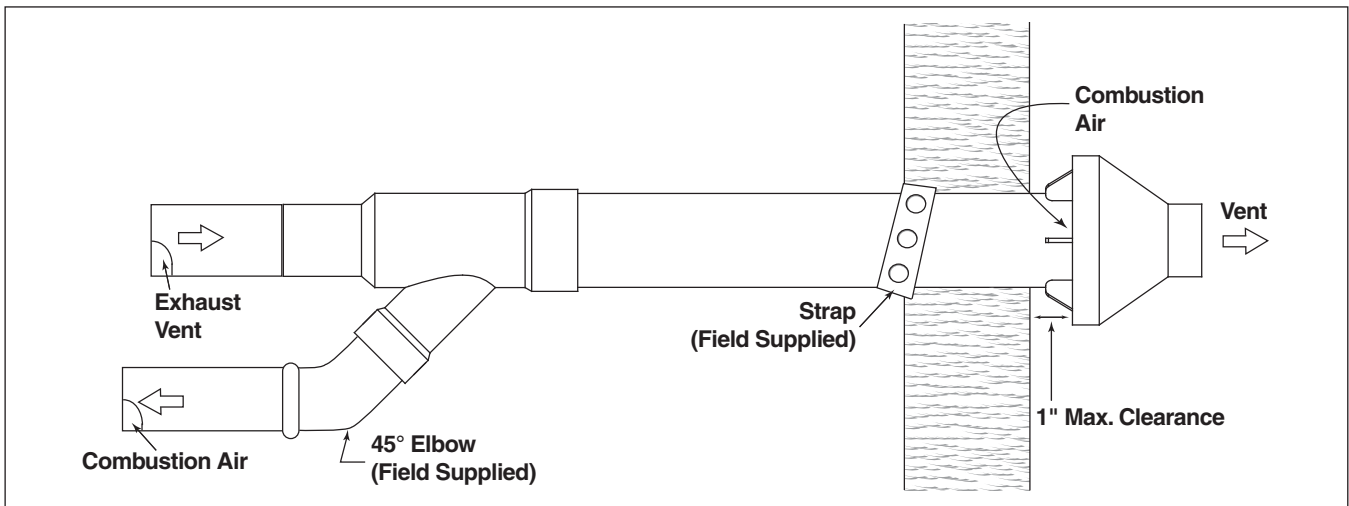

Figure 5. Side Wall Installation
4. Install cemented Y concentric fitting and pipe assembly through structure's hole (See Figure 5). **NOTE:** do not allow insulation or other materials to accumulate inside pipe assembly when installing through hole.
5. Secure the assembly to the structure as shown in Figure 5 using field supplied metal strapping or equivalent support material. **NOTE:** Ensure termination location clearance as shown in Figure 5.